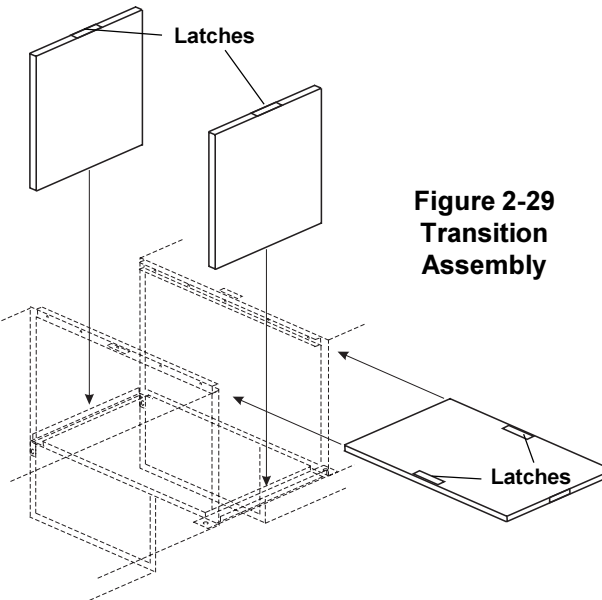

Figure 2-29
- Slide the top transition panel into place. Then, slide the two transition side panels into place. See Figure 2-29.
- If the four latches are not already attached to the side and top transition panels, attach them in place as shown in Figure 2-29.